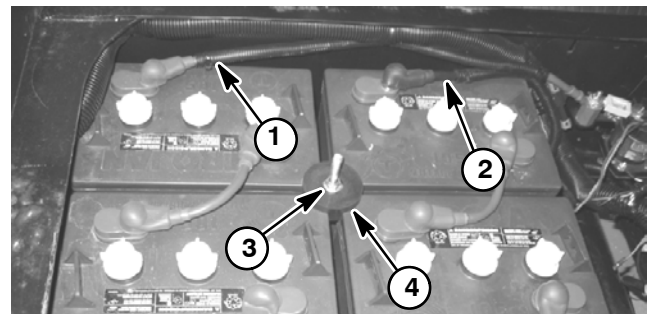

Figure 43
5. Remove flange nuts (item 11) and battery retainers (item 10) used to secure batteries to vehicle (Fig. 43).
4. Install two (2) battery retainers and nuts to secure batteries to vehicle (Fig. 43). Torque nuts from **115 to 125 in-lb (13.0 to 14.1 N-m)**.